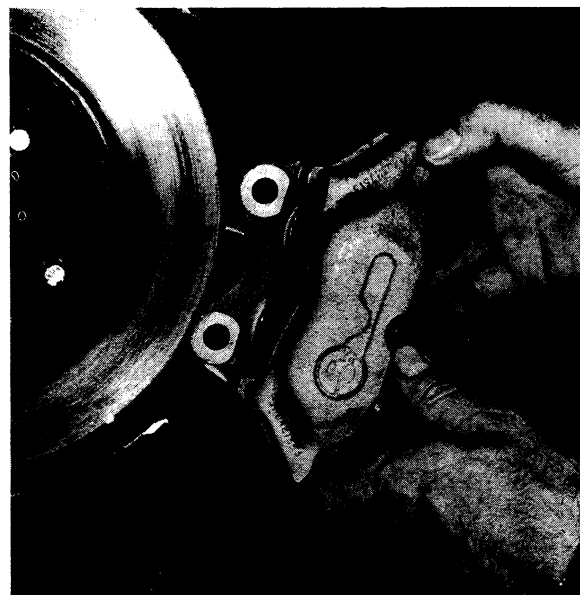

Fig. 5-21. Removing front wheel brake caliper
4. Unscrew the attaching bolts (4 and 7) and remove the brake caliper, see Fig. 5-21. Place the protective cover on the brake lines to prevent unnecessary leakage.